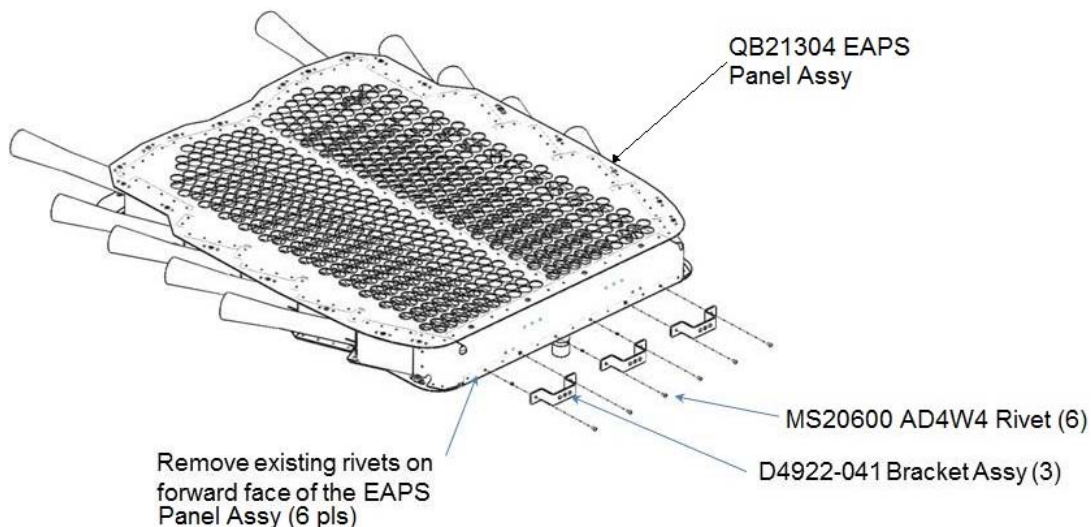

Figure 5– D4922-041 Bracket Installation
- 3.1.7. From the lower front face of the QB21304 EAPS Panel Assy, remove (from the left or right side) every second rivet (6 places). Install three D4922-041 Bracket Assemblies using MS20600AD4W4 Rivets (2 per bracket) as shown in Figure 5.